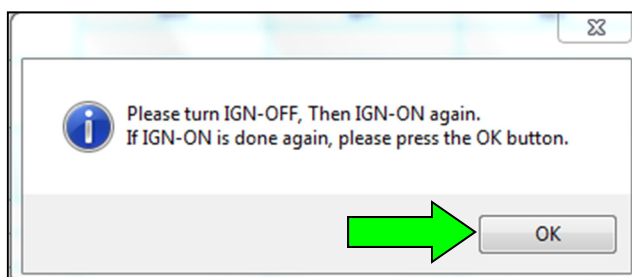

Figure 8
14. When the screen in Figure 8 appears, turn OFF the ignition, and then turn ON the ignition.